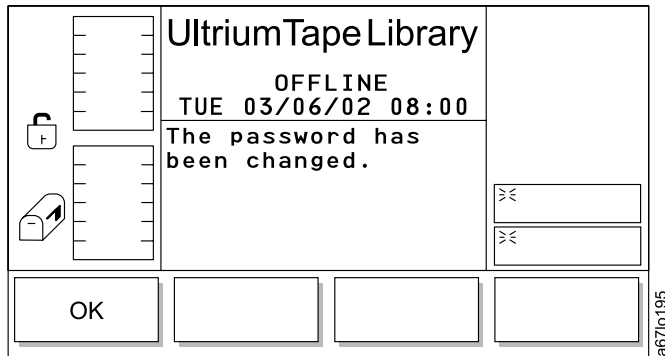

Figure 158. Password Changed Dialog
- If **OK** is selected and the correct password has been entered, the Password Changed Dialog displays (see Figure 158 on page 132). If an incorrect password is entered, the error message You did not enter a valid password displays.
- If **OK** is selected, and the correct passwords have been entered, the Password Changed Dialog displays (see Figure 158 on page 132). If an incorrect password is entered, the error message You did not enter a valid password displays.